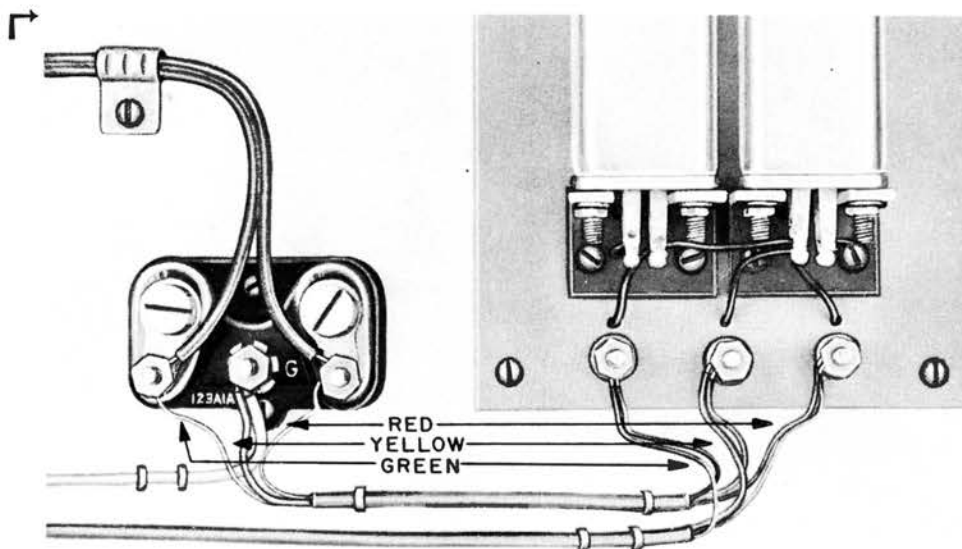

Fig. 13 - 123A1A Protector with 40BA Capacitor Installed
4.10 The 40BA capacitor is installed near the protector as shown in Fig. 13. The inside wires are connected to the capacitor terminals. The capacitor is connected to the protector with a short piece of inside wire. The 40BA capacitor must be mounted inside when an outside protector is used.